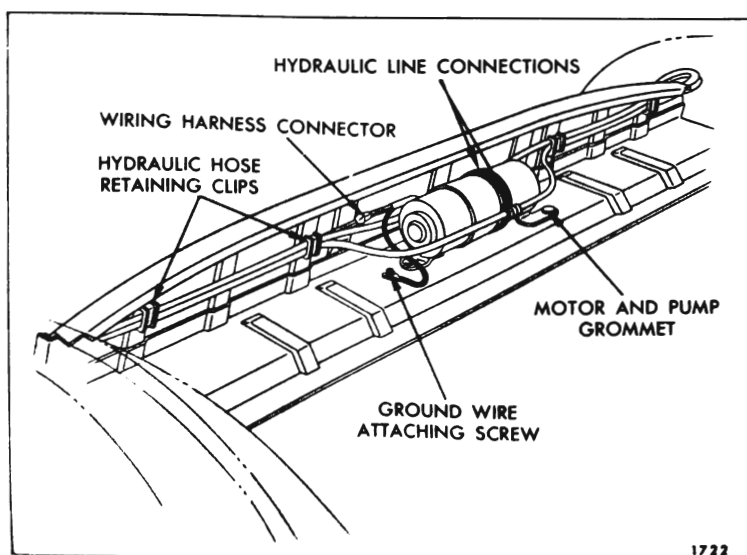
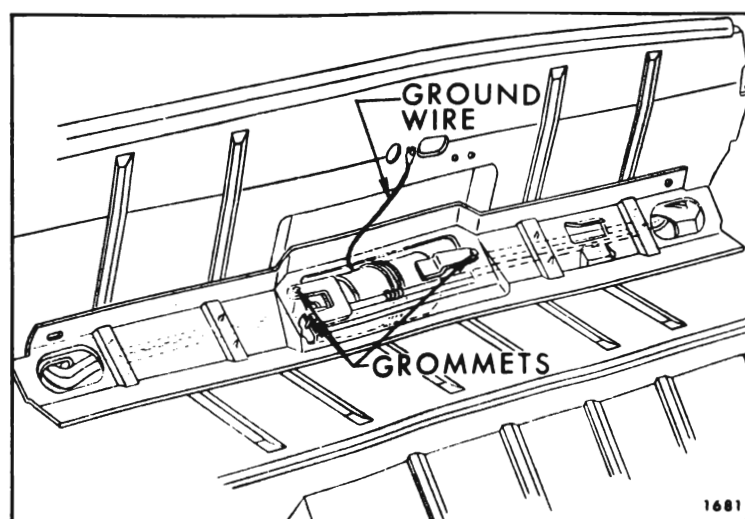

Fig. 6-58—Motor And Pump Assembly
Fig. 6-59—Hydro-Lectric Motor And Pump Assembly
The high pressure hydro-lectric unit used in the convertible bodies, consists of a 12 volt reversible type motor, a rotor-type pump, two hydraulic lift cylinders, and an upper and lower hydraulic hose assembly. On the "A" Series the unit is installed in the body directly behind rear seat back. (Fig. 6-58). On the "B & C" Series the unit is installed in the body beneath the rear seat back panel (Fig. 6-59).
6. Remove clips securing wire harness and hydraulic hose to rear seat back panel. (Figs. 6-58 and 6-59).
7. a. On "A" Body Styles disconnect motor leads from wire harness and ground attaching screws (Fig. 6-58).
- b. On "B & C" Body Styles at rear seat back panel, disconnect wiring harness and remove ground wire attaching screw (Fig. 6-59).
8. To facilitate removal, apply a rubber lubricant to pump attaching grommets; then carefully disengage grommets from floor pan. (Figs. 6-59 and 6-58).
11. Disconnect hydraulic lines and cap open fittings to prevent leakage of fluid. (Figs. 6-58 and 6-59). Use a cloth to absorb any leaking fluid, then remove unit from rear compartment.
- a. Check connection of motor ground wire to body metal. (See Figs. 6-58 and 6-59.)